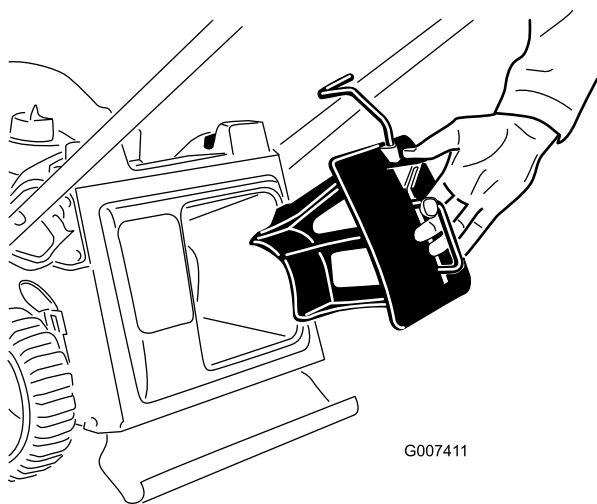

Figure 10
1. Insert the mulch plug into the machine if it isn't already installed (Figure 10).